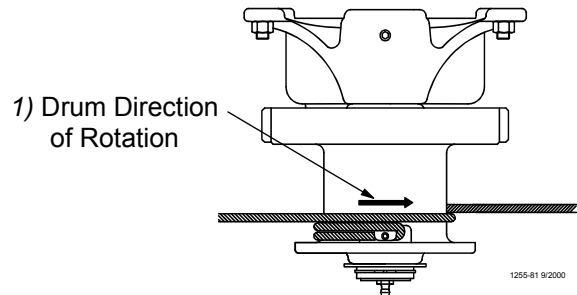

Figure 11. Power Winch Drum Rotation
5. Turn the winch drum one full revolution. Guide the cable against the flange at the bottom of the winch drum. The cable must not wrap over itself on the drum, but should be wrapped as close as possible to each previous wrap. **See Figure 11.**